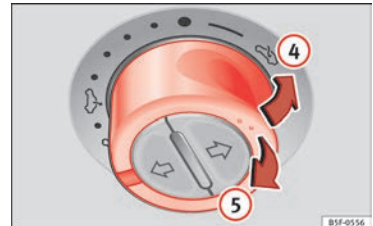

Fig. 12 On the interior roof lining: press the button and pull on it to raise and lower the sunroof.
- » Fig. 12 ④. For an intermediate position, hold down the switch until you reach the desired position.
- » Fig. 12 ⑤. For an intermediate position, hold down the switch until you reach the desired position.